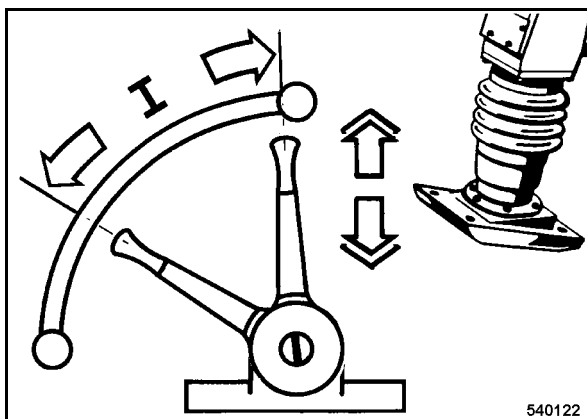

Fig. 21
- To achieve uniform running you should actuate the throttle lever within range "I" (3600 bis 4200 min⁻¹) (Fig. 21), depending on condition and density of soil.